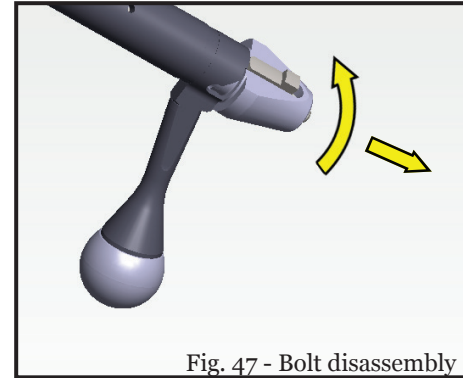

Fig. 47 - Bolt disassembly
1. Hold the bolt body firmly and then carefully turn the bolt shroud clockwise approximately $\frac{1}{4}$ turn (Fig. 47).